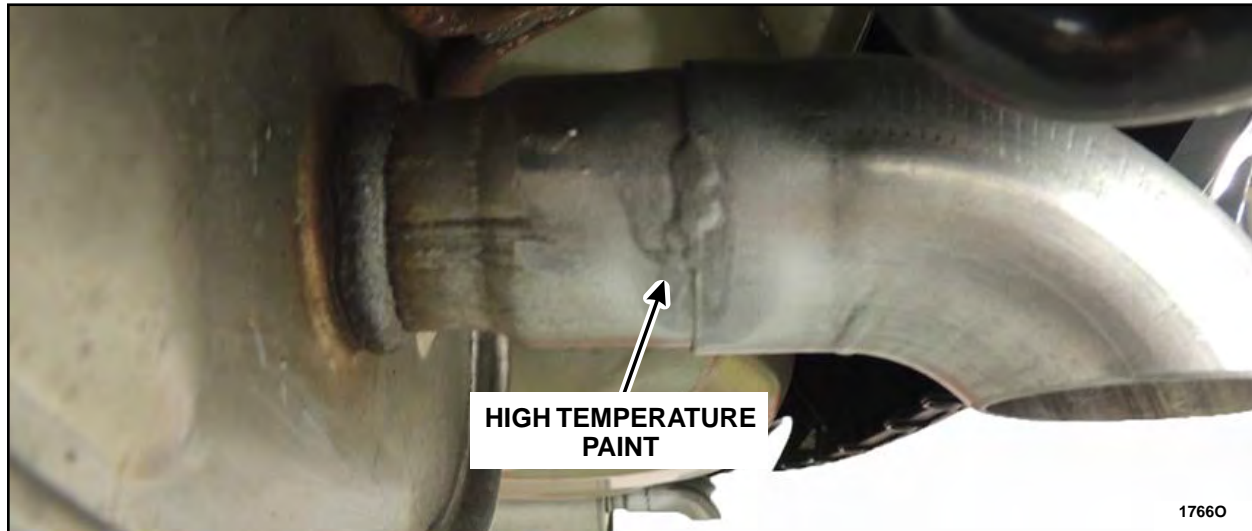

FIGURE 33
5. Apply 1 in (25 mm) long weld beads along both sides of each exhaust tip using 308L or 409SS MIG welding wire. See Figure 33.